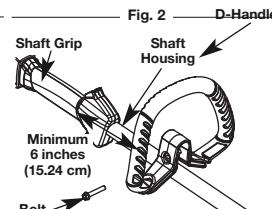

Fig. 3
- Push the D-handle down onto the boom (Fig. 3), so that the bolt hole in the D-handle is to the right.
- While holding the unit in the operating position (Fig. 3), move the D-handle to the location that provides the best grip. Place it a minimum of 6 inches (15.24 cm) from the end of the shaft grip.
- Tighten the bolt until the D-handle is secure. (Fig. 3)